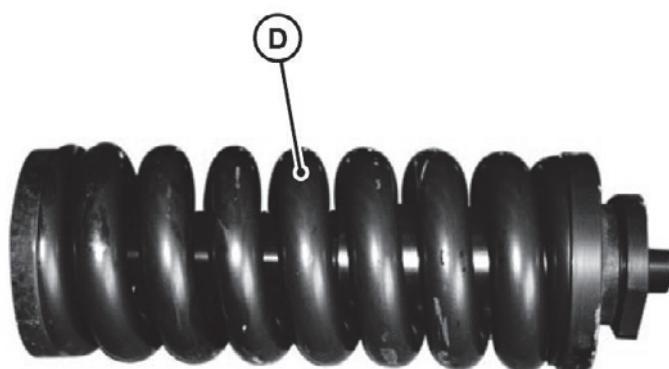

Fig. 26 Spring tensioning fixture
- 4 If the sag is excessive, tension the chain with the spring tensioning fixture (D) in Fig. 26 provided. If the sag is too small, release track tension.